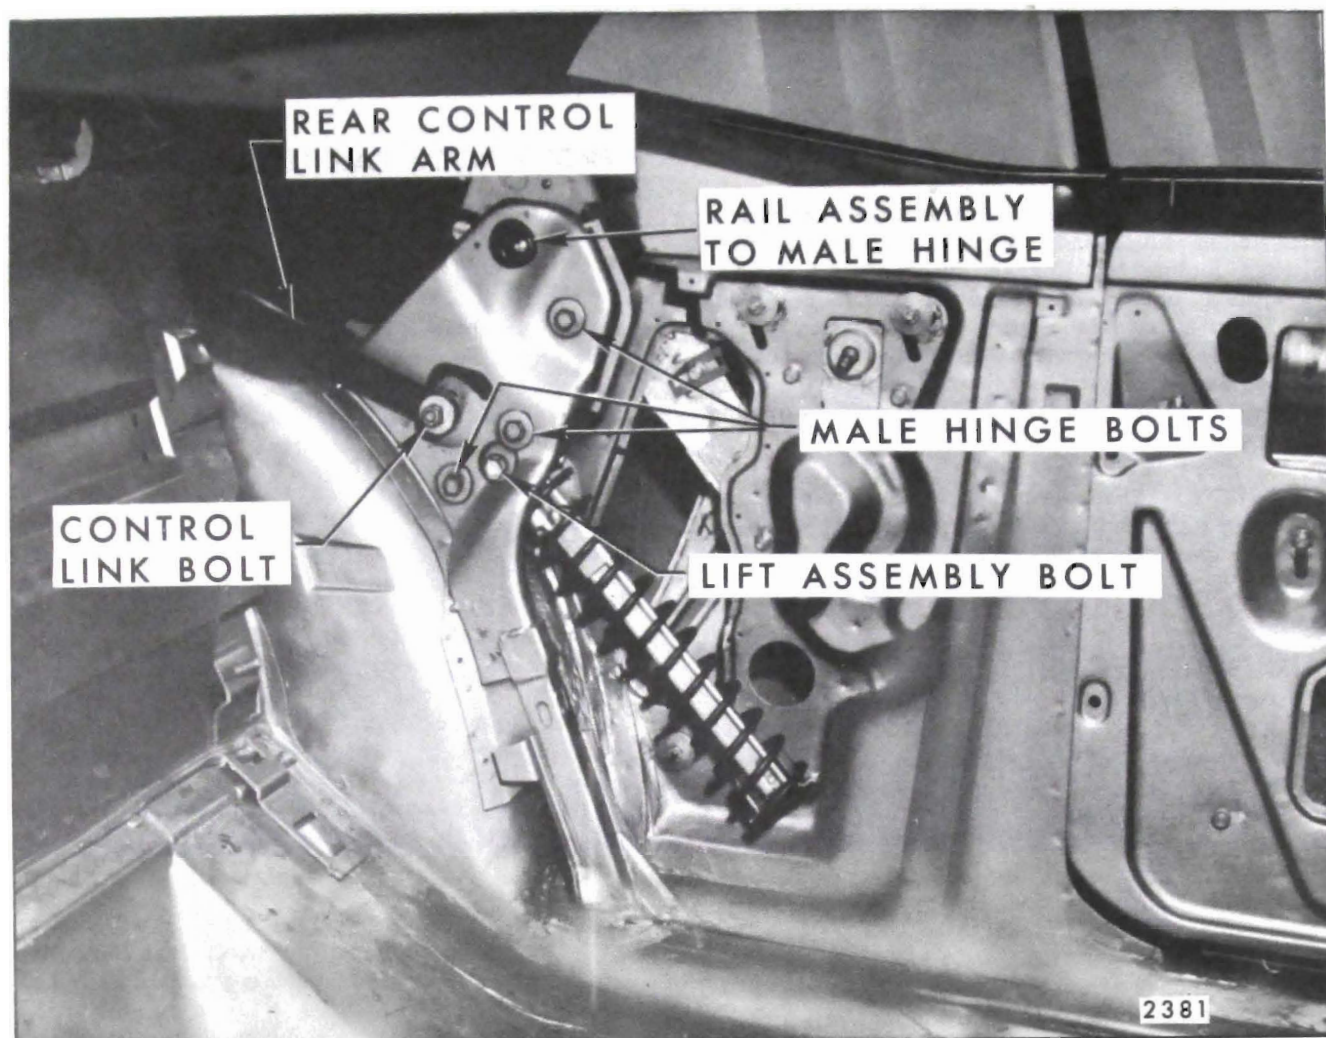
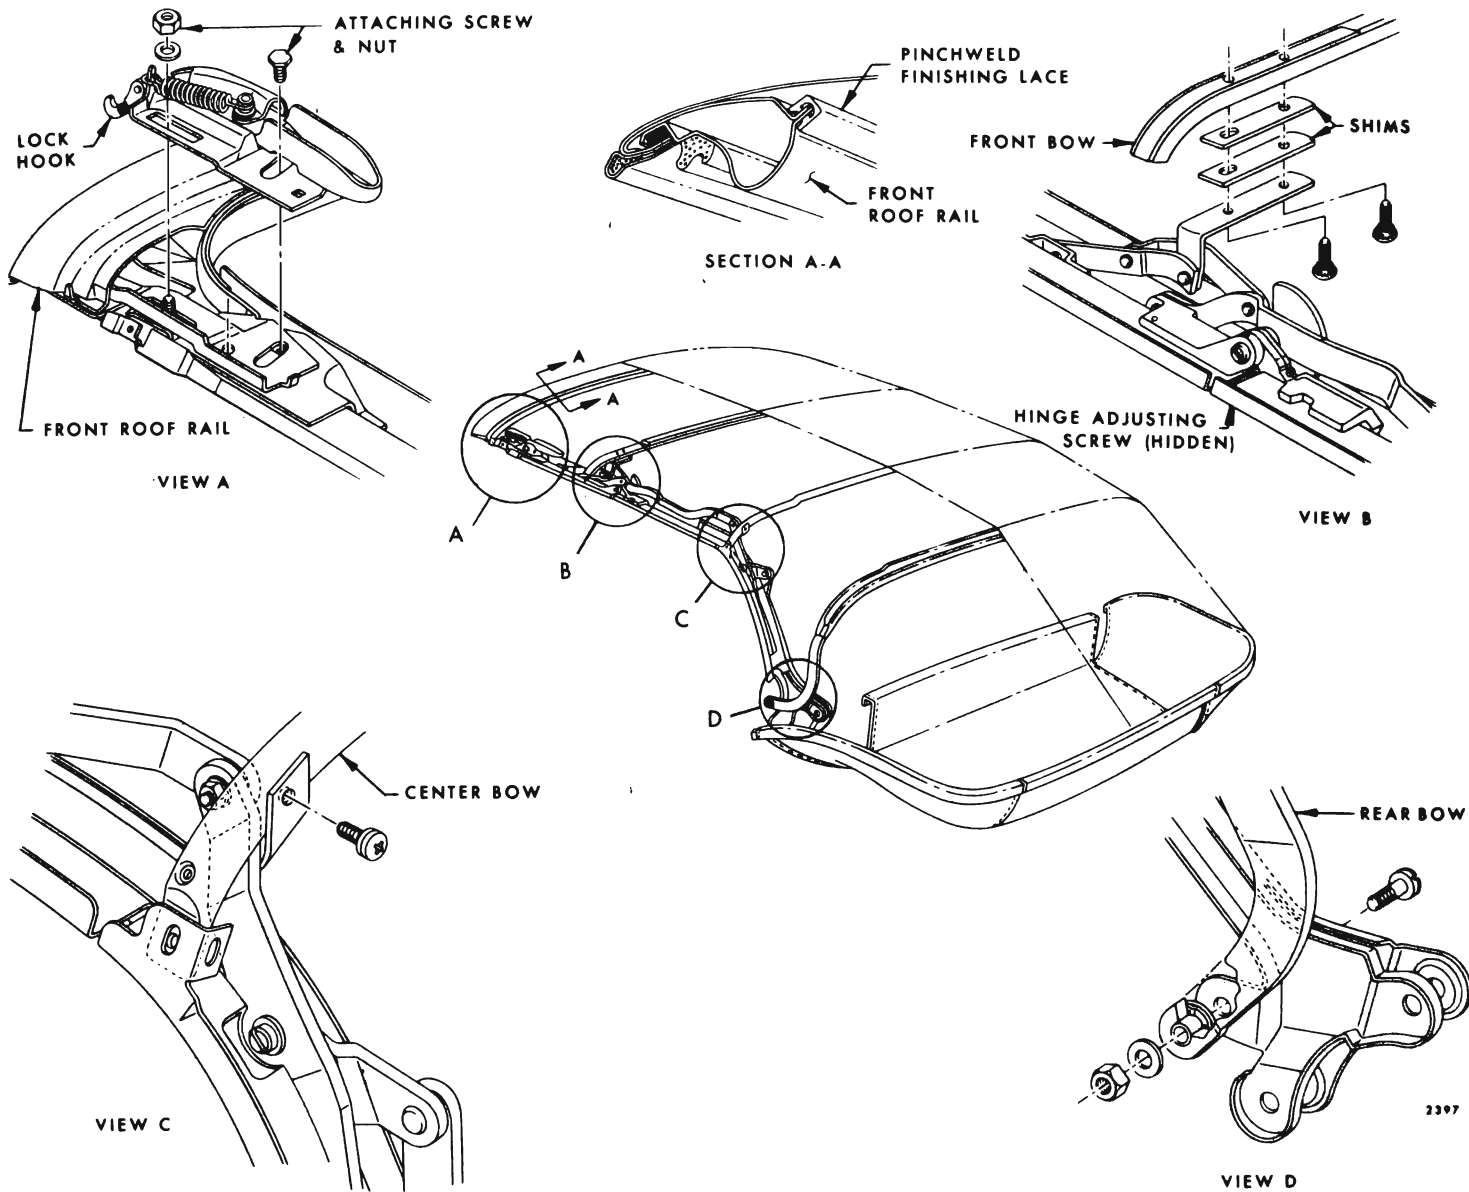

Fig. 13-83—"F" Body Convertible Top Linkage Attachments
Fig. 13-84—"F" Body Folding Top Adjustments
2. Loosen lock assembly attaching screws on side roof front rail and adjust front roof rail fore or aft as required. Repeat on opposite side if necessary. (See View "A", Fig. 13-84).
2. With top in a half-open position, remove lock attaching screws; then remove lock assembly from front roof rail. (See View "A", Fig. 13-84).
- b. Loosen one bolt securing control link sufficiently to permit adjustment of link (See Fig. 13-83).
- b. Loosen male hinge assembly (Fig. 13-83).
- b. Loosen male hinge assembly (See Fig. 13-83).
- c. Rotate male hinge forward to lower stack height or rearward to raise stack height (Fig. 13-83).
NOTE: When rotating male hinge be certain position of rear rail to male hinge is maintained (Fig. 13-83).
| A. Difficult locking action at front roof rail. | 1. Lock hook improperly adjusted. | Adjust lock hook counterclockwise. (See View "A" in Fig. 13-84). |
| | 3. Front roof rail misaligned. | Adjust front roof rail. (View "A" in Fig. 13-84). |
| B. Top does not lock tight enough to windshield header. | 1. Lock hook improperly adjusted. | Adjust lock hook clockwise. (See View "A" in Fig. 13-84). |
| C. Top travels too far forward. | 1. Front roof rail misaligned. | Adjust front roof rail rearward (See View "A" in Fig. 13-84). |
| | 2. Male hinge assembly misaligned. | Adjust male hinge assembly rearward. (Fig. 13-83). |
| D. Top does not travel forward far enough. | 1. Front roof rail misaligned. | Adjust front roof rail forward. (See View "A" in Fig. 13-84). |
| | 2. Male hinge assembly misaligned. | Adjust male hinge assembly forward. (Fig. 13-83). |
| E. Side roof rail rear weatherstrip too tight against rear quarter window. | 1. Male hinge assembly misaligned. | Adjust male hinge assembly rearward. (Fig. 13-83). |
| F. Gap between side roof rail rear weatherstrip and rear of rear quarter window. | 1. Male hinge assembly misaligned. | Adjust male hinge assembly forward and/or shim side roof rail rear weatherstrip forward as required (Fig. 13-83). |
| G. Side roof rail rear weatherstrip too tight against top of rear quarter window. | 1. Male hinge misaligned. | Adjust male hinge upward. (Fig. 13-83). |
| H. Gap between side roof rail rear weatherstrip and top of rear quarter window. | 1. Male hinge misaligned. | Adjust male hinge downward and/or shim side roof rail rear weatherstrip downward as required. (Fig. 13-83). |
| I. Sag at front to center side roof rail joint. | 1. Control link misaligned. 2. Center side roof rail hinge adjusting screw improperly adjusted. | Adjust control link downward. (Fig. 13-83). Adjust screw counterclockwise. (See View "B" in Fig. 13-84). |
| J. Front and center side roof rails bow upward at hinge joint. | 1. Control link misaligned. 2. Center side roof rail hinge adjusting screw improperly adjusted. | Adjust control link upward. (Fig. 13-83). Adjust screw clockwise. (See View "B" in Fig. 13-84). |
| K. Folding top dust boot is difficult to install. | 1. Improper stack height due to misaligned male hinge assembly. 2. Excessive build-up of padding in side roof rail stay pads. 3. On manual tops, due to improperly adjusted catch clips. | Rotate male hinge forward or rearward as required. (Fig. 13-83). Repair side stay pads as required. Adjust catch clips downward as required. |
| L. Folding top dust boot fits too loosely. | <ol style="list-style-type: none"> 1. Improper stack height due to misaligned male hinge assembly. 2. On manual tops, due to improperly adjusted catch clips. | <p>Rotate male hinge assembly rearward as required. (Fig. 13-83).</p> <p>Adjust catch clips upward as required.</p> |
| M. Top material is too low over windows or side roof rails. | <ol style="list-style-type: none"> 1. Front roof bow improperly shimmed. 2. Excessive width in top material. | <p>*Install one or two 1/8" shims between front roof bow and slat iron. (See View "B" in Fig. 13-84).</p> <p>If top is too large, detach binding along affected area, trim off excessive material along side binding as required; then hand sew binding to top material.</p> |
| N. Top material is too high over windows or side roof rails. | <ol style="list-style-type: none"> 1. Front roof bow improperly shimmed. | <p>*Remove one or two 1/8" shims from between front roof bow and slat iron. (See View "B" in Fig. 13-84).</p> |